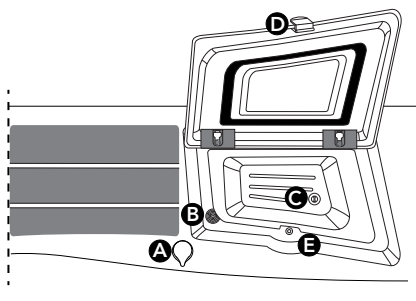
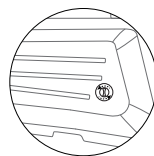
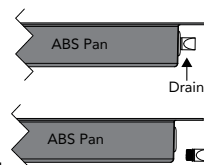

Figure 12.1c
Figure 12.1d
Figure 12.1f
From the Settings Menu (Figure 12.1a) tap **SunCooler™...** to enter the SunCooler Drain Menu, Figure 12.1b. When water accumulates within the SunCooler bins, draining of the water can be done in one of two ways, internally into the hot tub (Figure 12.1d) or externally out of the hot tub (Figure 12.1f). There are also SunCooler perimeter drains, Figure 12.1c. When water accumulates, in the perimeter, draining is continuous any time pump 1 is running.
2. Locate the drain plug inside the SunCooler, Figure 12.1d.
3. Turn the thumb screw counterclockwise to remove, Figure 12.1d. Place the screw in a safe location to prevent from losing it.
4. Locate the air control that works with the bin drain, Figure 12.1c, and close it by turning it counterclockwise.
2. Locate the drain plug on the ABS pan of the hot tub, Figure 12.1f.
3. Turn the thumb screw counterclockwise to remove, Figure 12.1f. Place the screw in a safe location to prevent from losing it.
4. Locate the drain plug inside the SunCooler, Figure 12.1d.
5. Turn the thumb screw counterclockwise to remove, Figure 12.1d. Place the screw in a safe location to prevent from losing it.